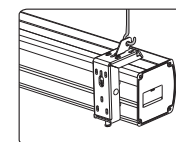

Figure 18
- 4.After completing steps 2 and 3, check to see whether the wall bracket is securely fixed onto the housing of the screen before hanging. Hang screen as shown below. (figure 18)